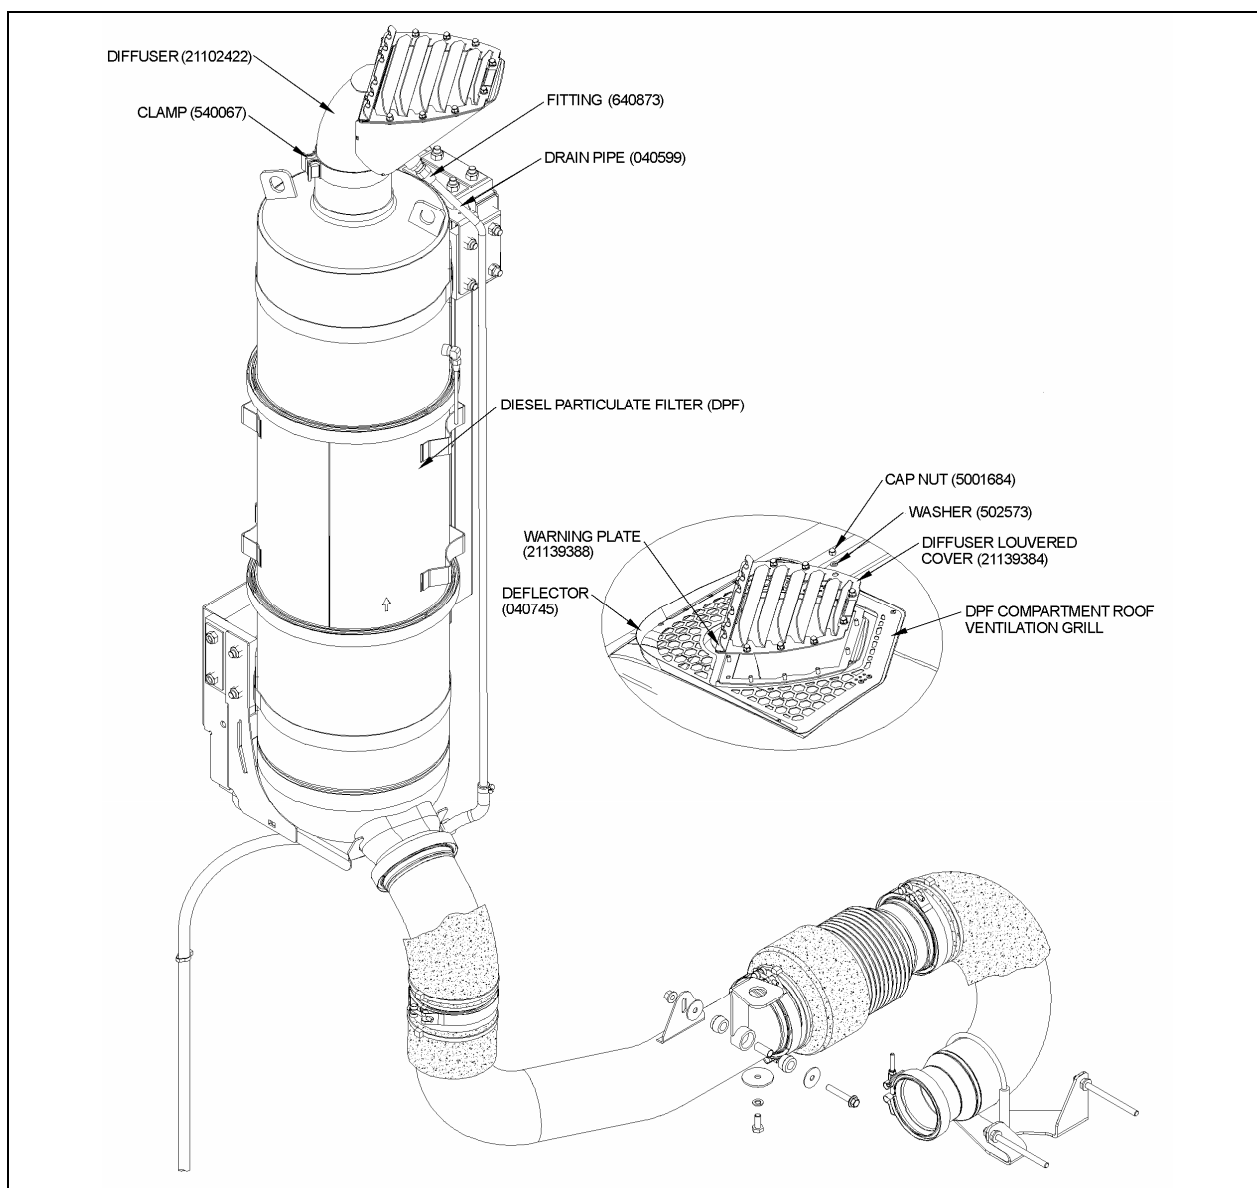

FIGURE 3: EXHAUST SYSTEM INSTALLATION WITH DDEC VI ENGINE
2. Remove DPF compartment roof ventilation grill and put aside (refer to fig. 3 or 4).
3. Remove diffuser holding clamp located above diesel particulate filter (refer to fig. 3 or 4).
4. Unfasten diffuser drain pipe fitting and then remove drain pipe (refer to fig. 3 or 4).
6. Position Diesel Particulate Filter (DPF) compartment roof ventilation grill and then fix new deflector (040745) and roof ventilation grill using screws (refer to fig. 3 or 4).
7. Secure diffuser using SS holding clamp (540067) (refer to fig. 3 or 4).
8. Replace copper drain pipe with SS pipe (040599) and secure to diffuser using new pipe fitting (640873) (refer to fig. 3 or 4).
9. Fix diffuser louvered cover (21139384) as well as warning plate (21139388) onto diffuser using flat washers (502573) and cap nuts (5001684) (refer to fig. 3 or 4).
4. Unfasten diffuser drain pipe fitting (refer to fig. 3 or 4).
7. Secure diffuser using SS holding clamp (refer to fig. 3 or 4).
8. Reconnect drain pipe to diffuser using pipe fitting (refer to fig. 3 or 4).
3. Unfasten diffuser drain pipe fitting (refer to fig. 3 or 4).
5. Fix diffuser louvered cover (21139384) as well as warning plate onto diffuser using flat washers (502573) and cap nuts (5001684) (refer to fig. 3 or 4).
6. Fix new deflector (040745) onto Diesel Particulate Filter (DPF) compartment roof ventilation grill using roof ventilation grill fixing screws (refer to fig. 3 or 4).